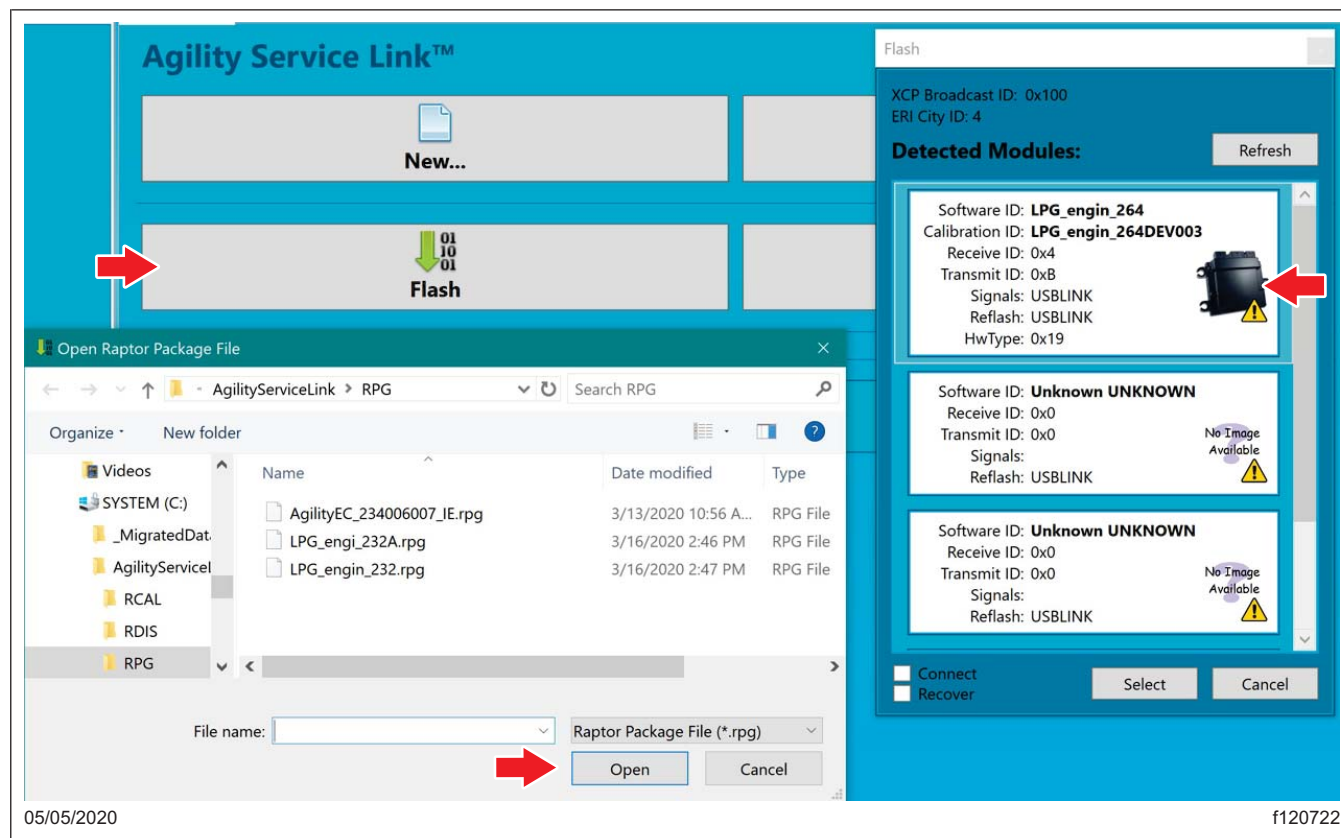

Fig. 25, Selecting Flash and the Module to be Flashed
5. Select 'Flash,' then double click the module you want to flash (it has the ECU image beside it). See Fig. 25.
6. A browse window will open in the bottom left of the screen. Select the calibration from the folder it was saved in earlier, then select 'Open.' See Fig. 25. This will begin the calibration programming.